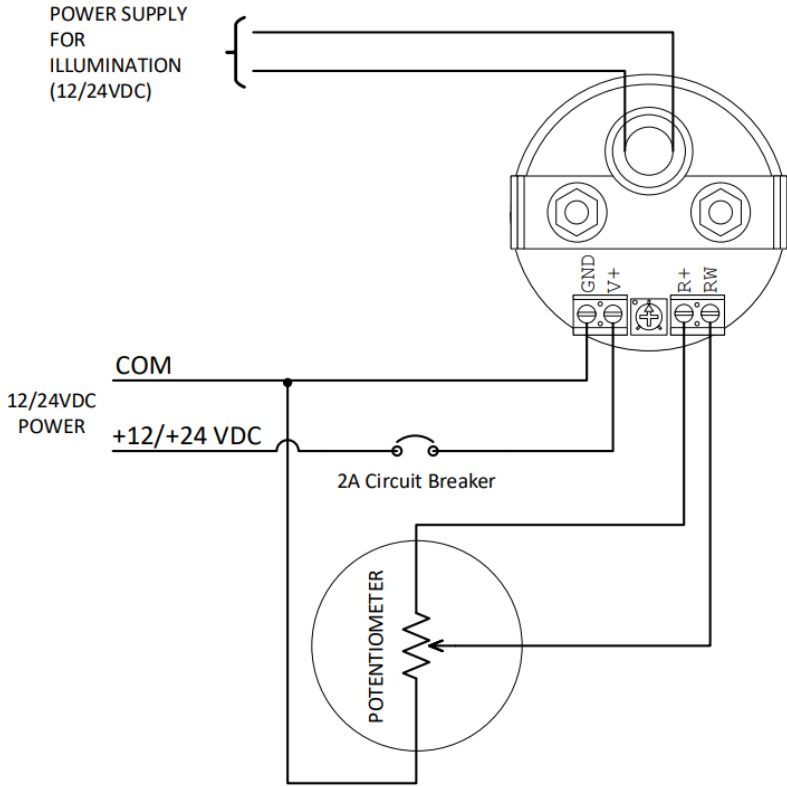
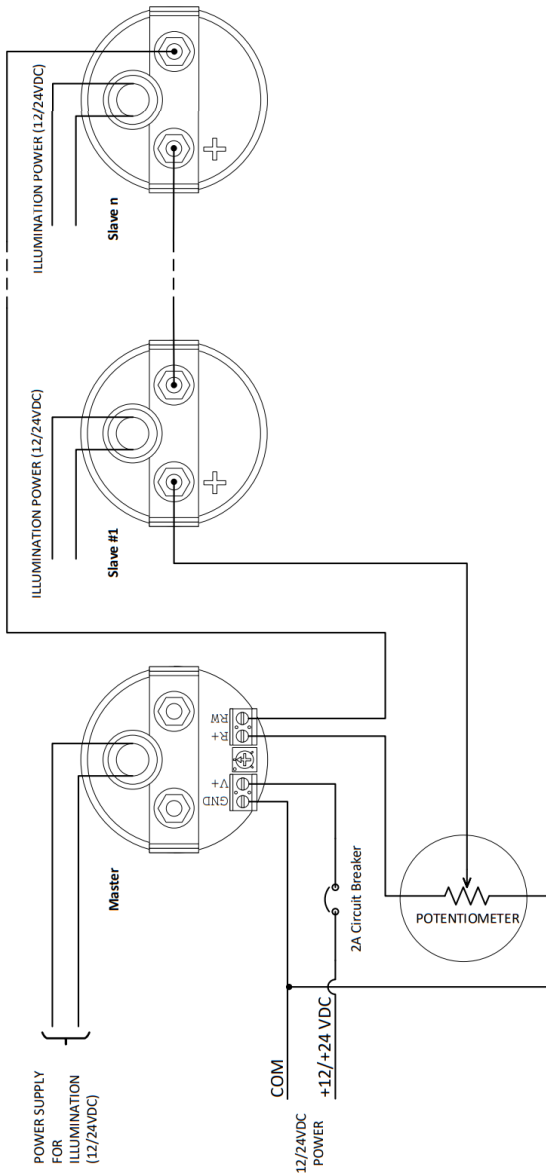

Figure 4: Master Unit Configuration
Figure 6: Master and Multiple Slave Units Configuration
1. Connect electrical cables and power wires according to one of the configurations shown in Figure 4 through Figure 6, and the additional details in this section of the manual.